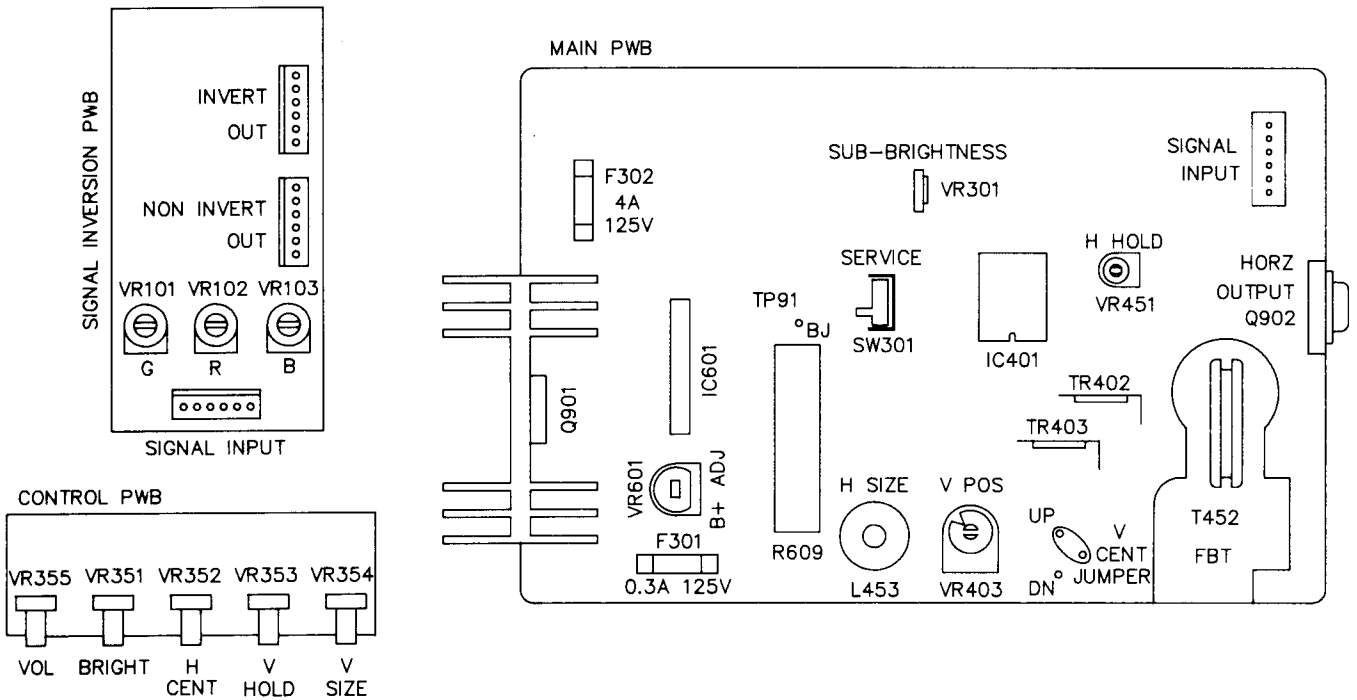
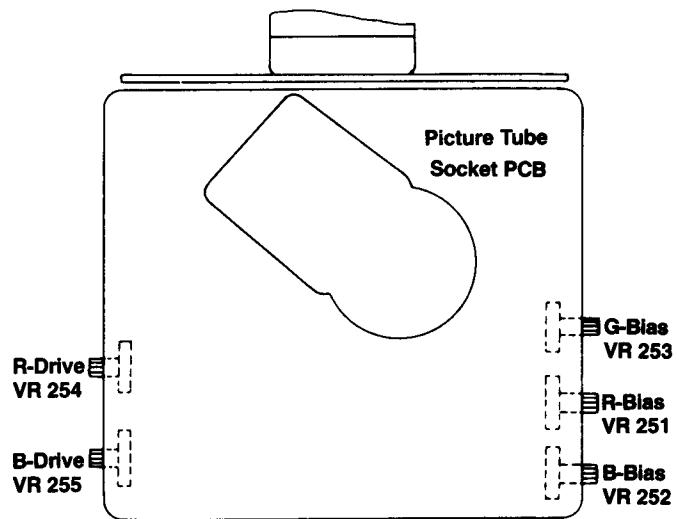

Figure 3 Adjustable Controls and Test Points on Main Chassis PCB, Control PCB, and Signal Inversion PCB
Figure 5 Adjustable Controls on Picture Tube Socket PCB
The BRIGHT control VR351 should be adjusted if the picture image is either too bright or too dark. See Figure 3 for the location of the Brightness control on the Control Printed-Circuit Board (PCB).
color or brightness, and whenever the purity and convergence is adjusted. (See Figure 3 for the location of the Screen and Brightness controls and Figure 5 for the Bias and Drive controls.)
The Horizontal Centering control should be adjusted if the picture is not centered on the screen, as indicated by a black area at either the left or the right edge. Figure 3 shows the location of the H-CENT control VR352 on the Control PCB. Adjust this control until a normal screen image is obtained.
The Vertical Hold control should be adjusted if the picture drifts straight up or down on the screen. Figure 3 shows the
The Vertical Size control should be adjusted if the screen image is either not filling the screen vertically, or if it is overscanning the screen vertically. Figure 3 shows the location of V-SIZE control VR354 on the Control PCB.
The Horizontal Width coil should be adjusted if the screen image is either too wide or narrow. Figure 3 shows the location of HORIZ WIDTH coil L453 on the Main Chassis PCB.
The Focus control should be adjusted if the screen image is not sanely defined. The Focus control is attached to the top of the horizontal-output transformer as shown in Figure 3. Turn this control until you get optimum screen sanyness.
The Horizontal Hold control should be adjusted if the picture is drifting sideways across the screen. Figure 3 shows the location of H-HOLD control VR451 on the Main Chassis PCB. Adjust this control until the black lines no longer slant downward or upward and you get a normal screen image.
- c. Adjust the Screen control for a dimly-lighted screen. This control is attached to the horizontal-output transformer as shown in Figure 3.
- a. Turn off the green and blue guns of the CRT by rotating the G-BIAS VR253 and B-BIAS VR252 controls to the fully counterclockwise position. (See Figure 5 for the location of the Bias adjustments.)